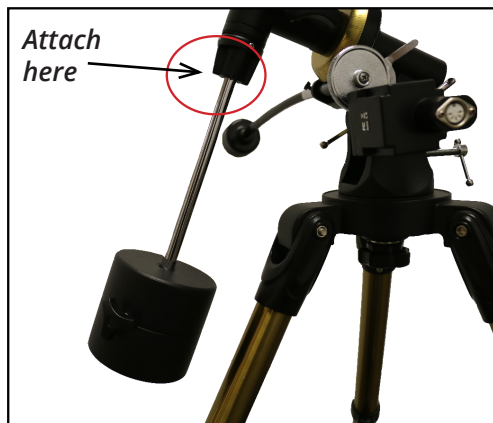

Figure 15.
17. Screw the shaft, with counter weight attached, to the mount (*Figure 15.*) Position the counter weight high on the shaft as shown in *Figure 16,* then tighten the "Counterweight Lock Knob" (#16) to secure it in place.